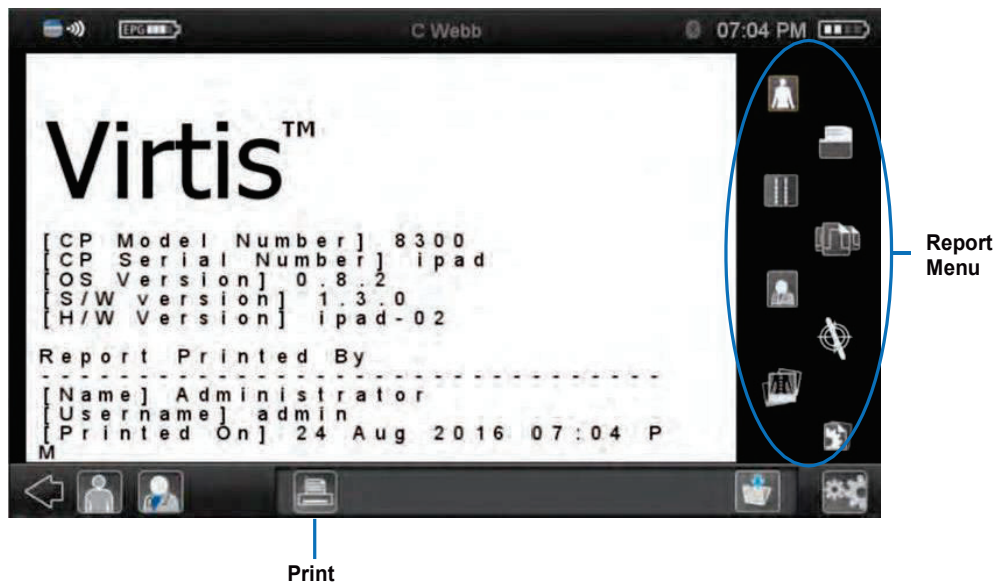

Figure 43. Reports screen
- The Reports screen (Figure 43) displays with general information about the patient and the stimulator.